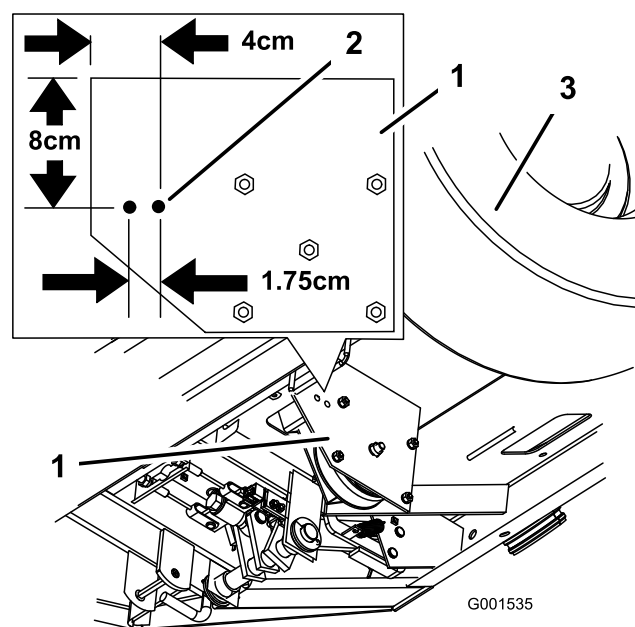

Figure 2
1. Locate the clutch plate under the floorboard (Figure 2).
2. To drill holes for the horn, measure and mark the holes as shown in Figure 2.
3. Drill two 8 mm diameter holes in the clutch plate (Figure 2).